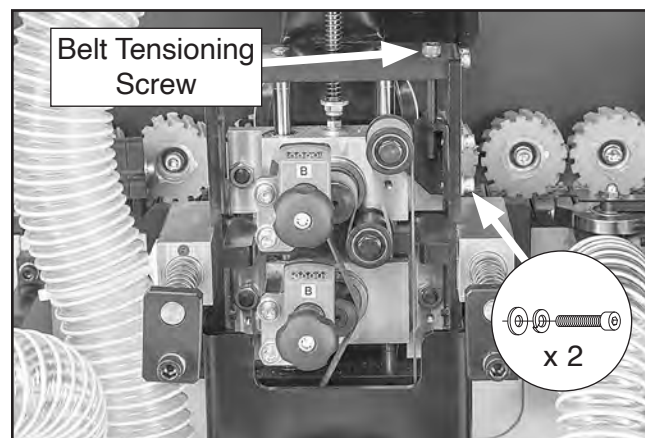

Figure 124. Location of drive belt adjustment screws.
4. Loosen (2) adjustment locking cap screws shown in **Figure 124**.
5. Rotate belt tensioning screw *counterclockwise* to loosen belt (see **Figure 124**), *clockwise* to tighten belt.